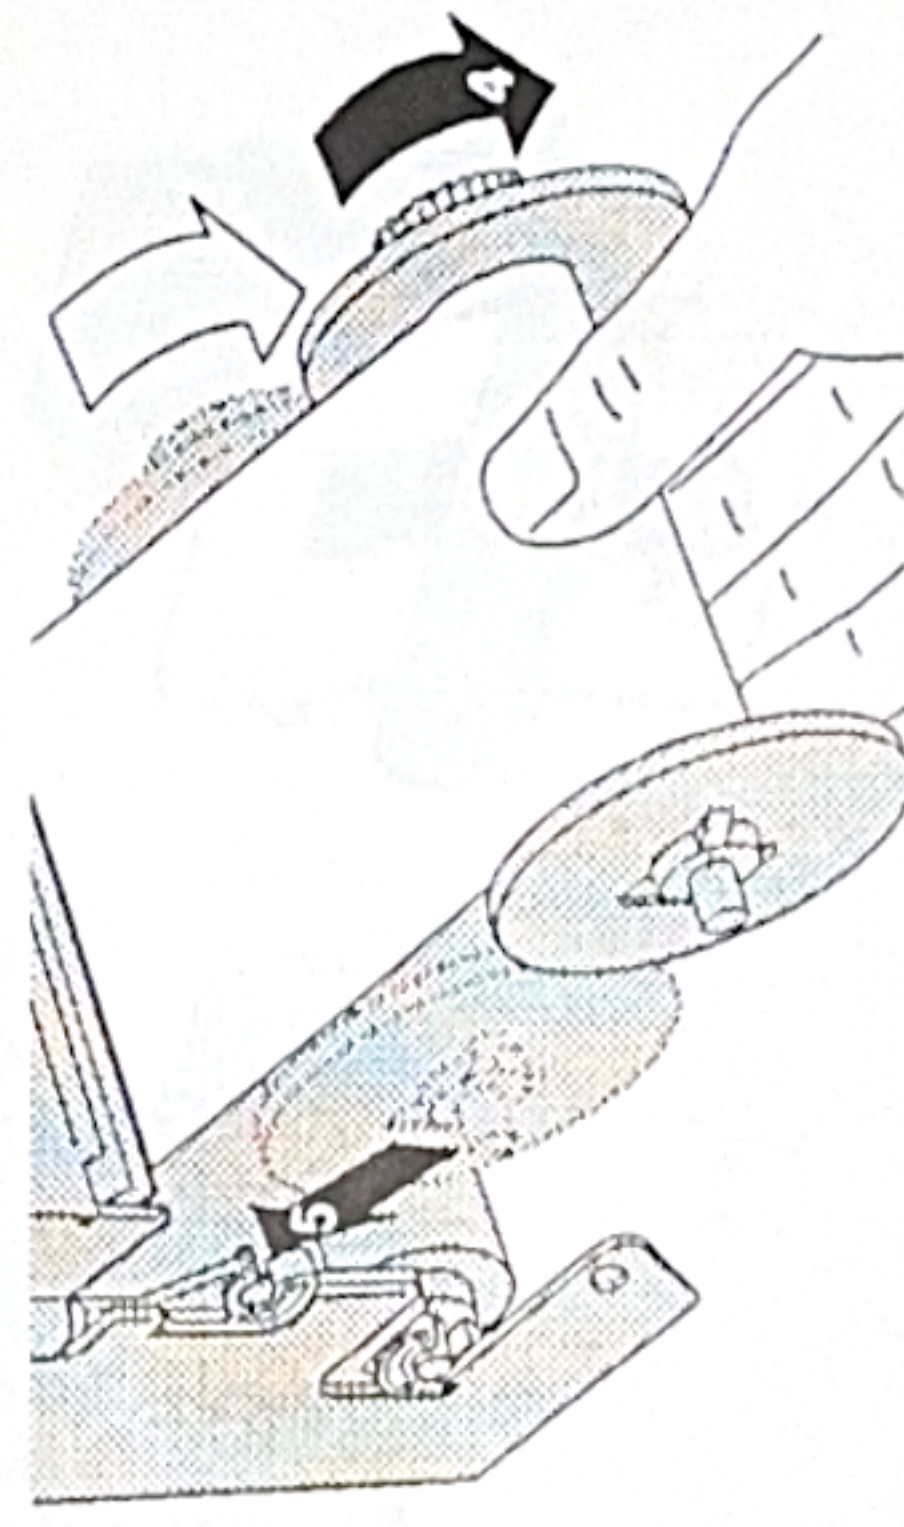

Figure 1-30
4. Rotate the journal takeup spindle clockwise six or seven times. (see figure 1-30)
5. Put the journal takeup spindle in the upper snaps above the receipt roll. Confirm that the gear (spindle) is on the right side of the printer. (see figure 1-30)